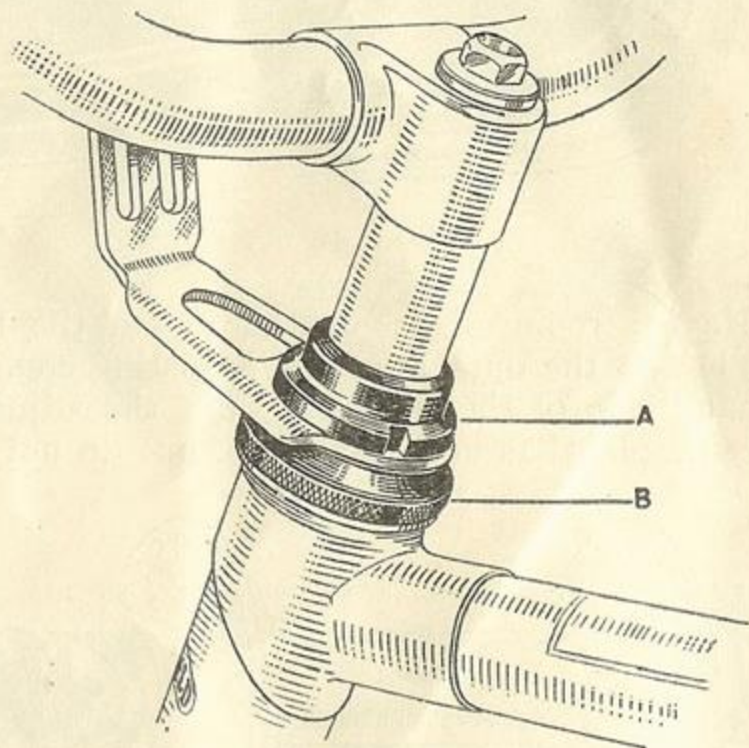

FIG. 12
- 10 **Steering Head.** Play in the steering head should be taken up by slackening the locknut A (Fig. 12) with the spanner provided and then tightening the adjusting nut B until all play has been taken up.